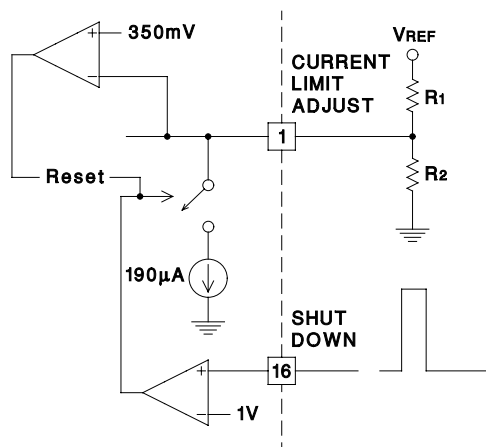

Figure 5. Shutdown Mode Programming
6) **CURRENT LIMIT**: As in the UC3846 and UC3856, R1 and R2 (see Figure 5) program the threshold for primary current limit and determine whether the IC will latch off or retry. When a shutdown signal is generated, a  $190\mu\text{A}$  current source to ground pulls down on pin 1. If the voltage on the current limit adjust pin (pin 1) remains above 350mV the IC will remain latched and power must be cycled to restart. If the voltage on the current limit adjust pin falls below 350mV, then the IC will attempt a re-start.